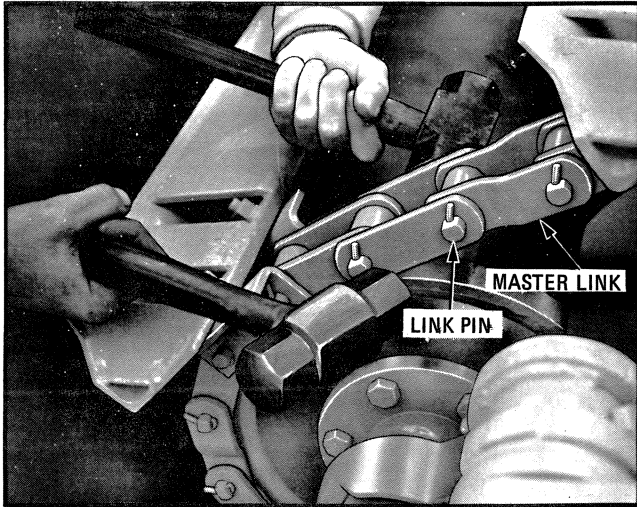

Fig. 1—Parting Chain
1. Part the chain by removing pin cotter and driving a pin through the chain using a heavy hammer or similar object as a back-up. See Fig. 1. Support the head roller with a hoist and sling.